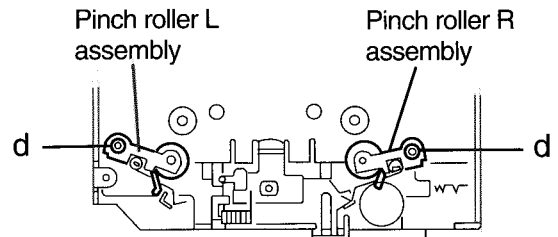

Fig. 5
Turn the unit upside down, then insert and turn to **b** the screwdriver to remove the bottom cover. (See fig 5)
■ Removing the Pinch Roller Assembly (See Fig. 5,6)